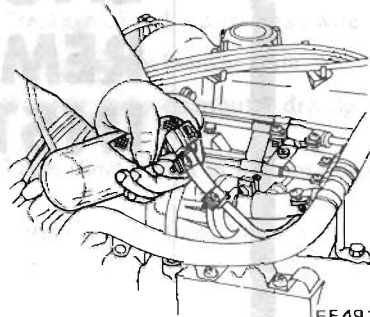

Fig. ER-1 Fuel injection from cold start valve
- (1) Disconnect ground cable from battery.
- (2) Disconnect ground lead wire (black) from fuel pump.
- (3) Disconnect lead wire from S terminal of starter motor.
- (4) Remove two screws securing cold start valve to intake manifold, and remove cold start valve.
- (5) Connect ground cable to battery.
- (6) Put cold start valve in a container of min. 20 cc (1.22 cu in) capacity. Turn ignition switch to START position, and release fuel line pressure. See Figure ER-1.